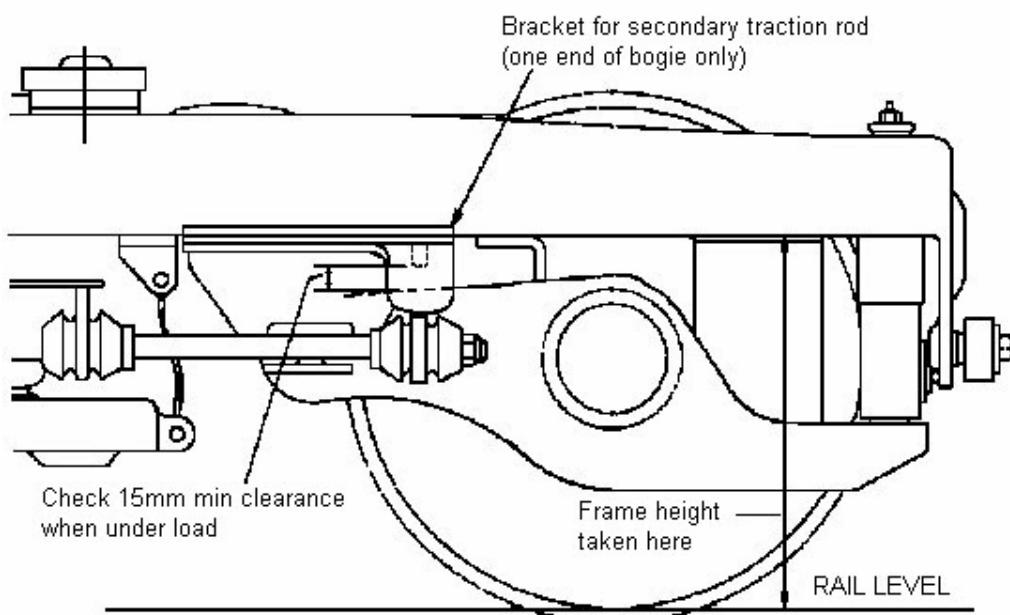

Figure 25.1: Measuring Bogie Frame Height
25.1 Using a suitable gauge placed across the rail measure the frame height, from top of rail to the underside of bogie frame, at all four corners near each primary spring. See Figure 25.1.
25.6 Check clearance between top of axlebox and underside of rib of secondary traction rod bracket (see Figure 25.1). Minimum clearance 15mm.